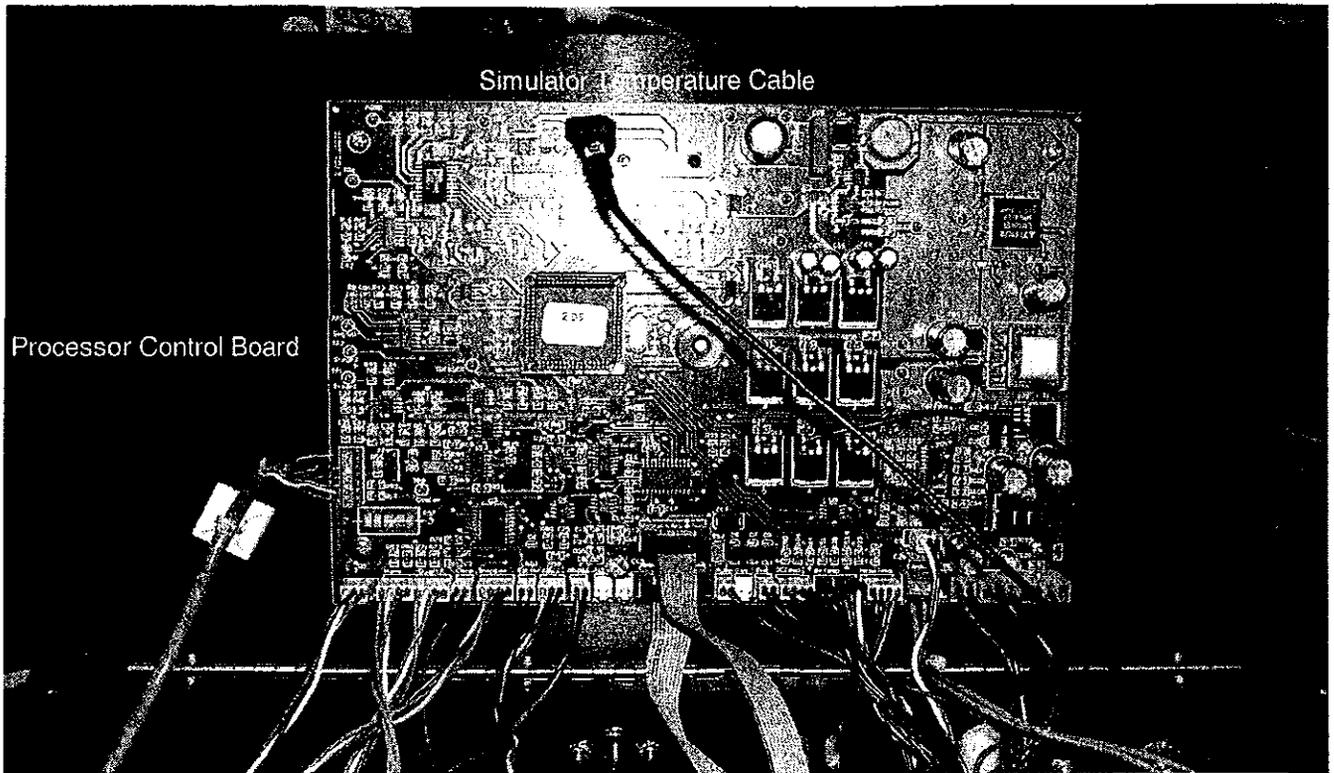

Figure 3: Internal view under lid of DataMaster DMT.
- c. Open the cover of the instrument and ensure the simulator temperature cable is properly connected to the processor control board (see Figure 3, Section IV page 2).